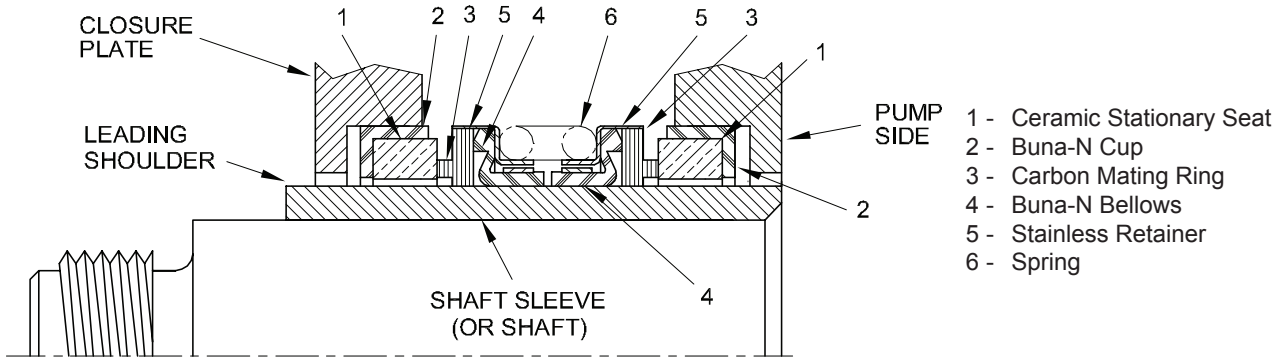

FIGURE 8
Carefully identify all the parts in figure 8, and familiarize yourself with their name parts. You will note that inner and outer stationary seats are identical. Cleanliness is of utmost importance. The mating seats and rings (1) & (3) have been precision lapped and must not be scratched nor cracked during assembly.
Install the seat assembly (1, 2 & 3), see Figure 8, in the bottom of the pump side and closure plate using P-80 rubber lubricant emulsion (from International Products Corp.) or SAE 10 non-detergent oil can be used on the rubber parts. They may install easier by first inserting the rubber cup (2) and then sliding the ceramic seat (1) into the rubber cup. This all must be done with the fingers only.